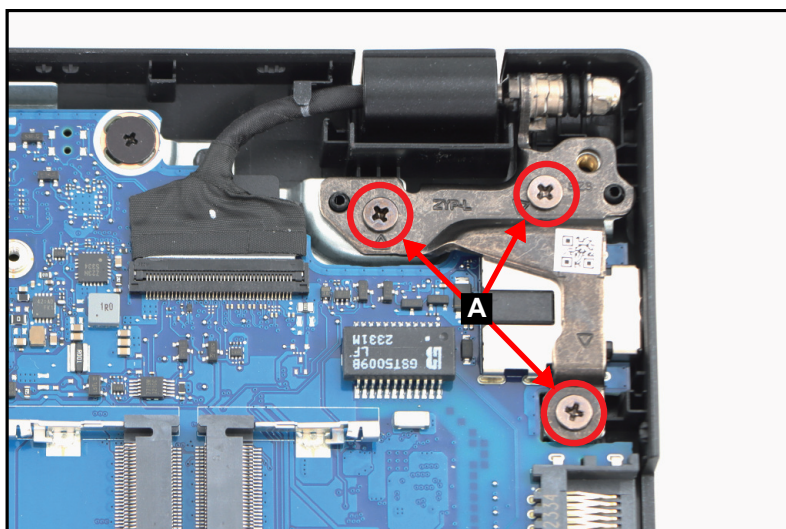

Figure 1-32. Mainboard Removal
1. Remove three (3) screws (A) securing the left LCD hinge (Figure 1-32).